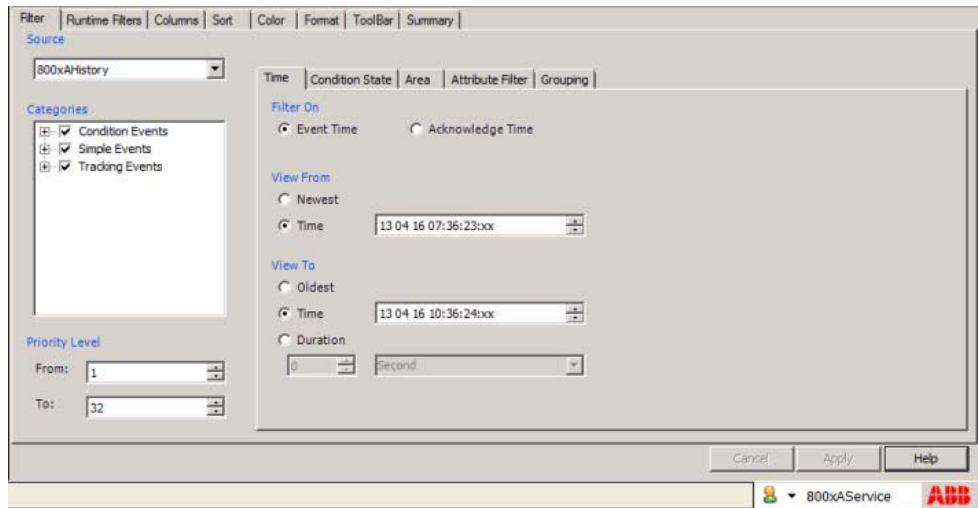

Figure 241. Retrieval based on event time
1. Select Newest and Oldest to apply no time filter as shown in Figure 241.